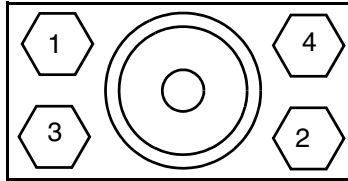

Figure 64. Bonnet Bolt Torquing Sequence
3. Prior to reassembling the single isolation valve and all related topworks components, place the adapter plate (K0153BE) on top of the flowtube and bolt using four screws (X0174FD). Torque to 30 lb•ft by tightening in increments of 6.8 N•m (5 lb•ft) using the torque sequence shown in Figure 64.
6. Tighten all bonnet bolts to 2.8 N•m (2 lb•ft) per the sequence shown in Figure 64.